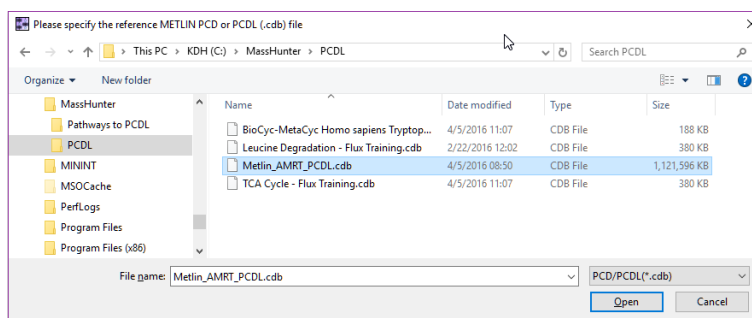

Figure 8 Please specify the reference METLIN PCD or PCDL (*.cdb) file dialog box
- b Navigate to the folder that contains your METLIN database, or any other personal compound database, in the **Please specify the reference METLIN PCD or PCDL (*.cdb) file** dialog box (Figure 8).